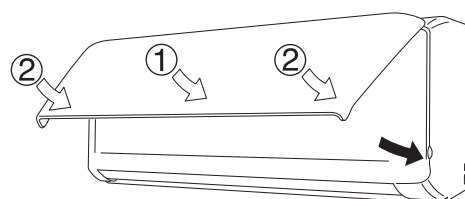

Fig. 1-71
- (6) Insert the top of the anti-mold filter, and then secure the bottom of the filter with the protrusions on the unit.
- (7) When closing the front panel, push the central part of the front panel first and then press the bottom right and left corners in place until you feel a click. (Fig. 1-71)